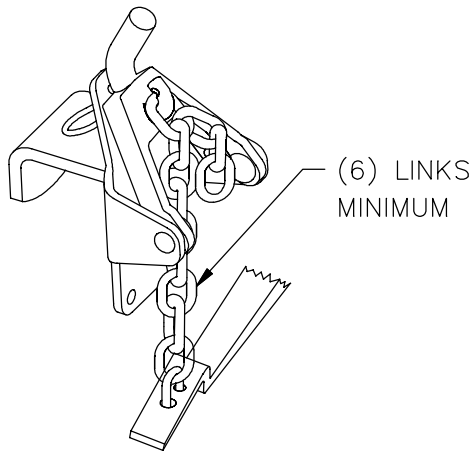

FIGURE 8
- Attach upper end of chain link to lift unit hook, while allowing remaining free links to fall down to the outside of the trailer frame (See figure 8).
- There must be at least 6 links between the lift unit and the spring bar.** This is necessary for proper operation of the spring bars during turns(See figure 8), **If there will be less than 6 links** between the lift unit (5) and u-bolt (7b), the angle of the head assembly (2) must be increased. The trailer must be uncoupled and the upper bolt (6e) removed from the head assembly. The head assembly is then pivoted down and an additional washer (6i) is added underneath the pin (6h) [See figure 1]. Reassemble.